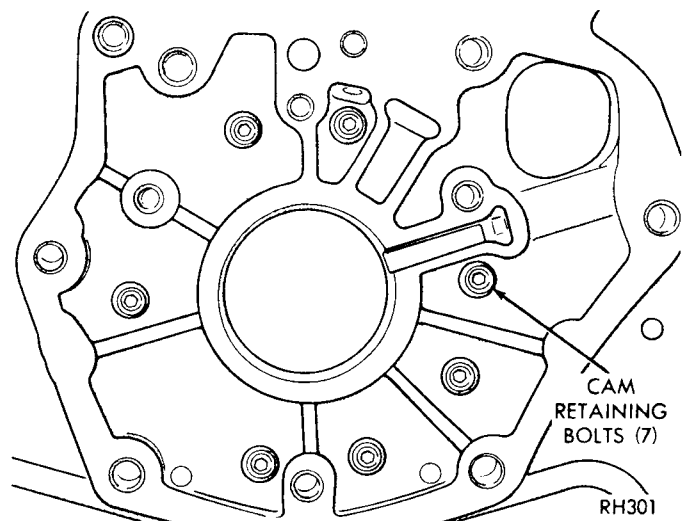
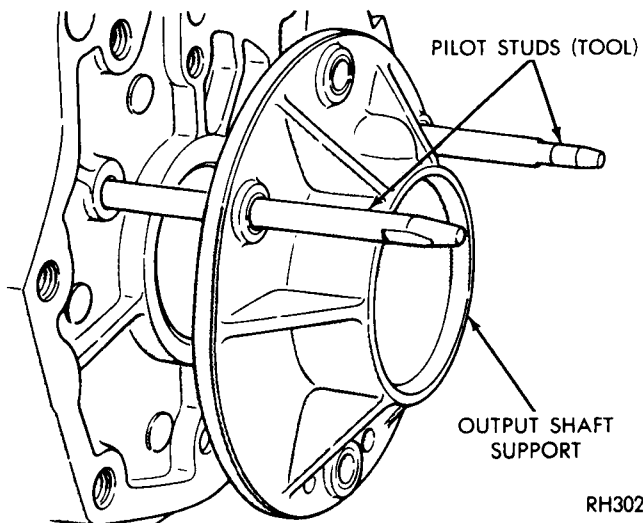

Fig. 37—Cam Retaining Bolts (A-904T and A-999)
Fig. 38—Install Output Shaft Support (A-904T and A-999)
(4) Carefully enlarge rivet holes in the case with a 17/64 inch drill. Remove all chips and foreign matter from the case, make sure cam area is free of chips and burrs.
(5) To install, position cam and roller spring retainer in the case. Align cam bolt holes with holes in the case, then thread all seven retaining bolt and washer assemblies into cam a few turns. The cone washers must be installed so inner diameter is coned toward the bolt head (Fig. 37).
(6) Tap cam firmly into the case if necessary. Draw retaining bolts down evenly, then tighten to 100 in. lbs. (11 N-m).
(7) Screw two pilot studs Tool C-3288-B into the case (Fig. 38). Position support over the pilot studs, and tap it firmly into the case with a soft-faced hammer.